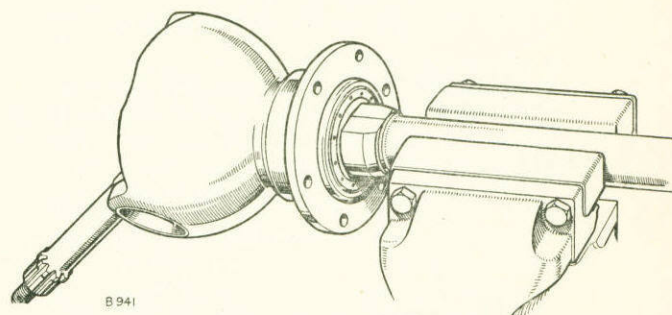

Fig. F-21—Removing the half shaft roller race retaining collar.
1. EARLY TYPE AXLES ONLY. Remove the half shaft roller bearing retaining collar by filing a flat on its outer diameter. When its thickness has been sufficiently reduced, the collar will split of its own accord (Fig. F-21). Care must be taken to prevent damage to the shaft and the roller race.